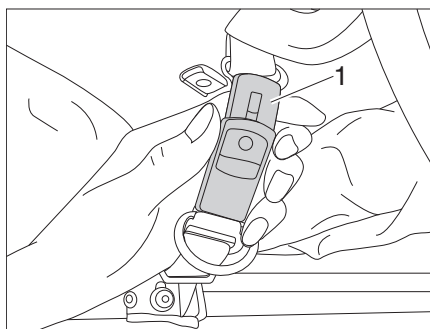

Fig. 32 Open the securing belt
- Open the securing belts (Fig. 32,1).
- Close the securing belts (Fig. 32,1).